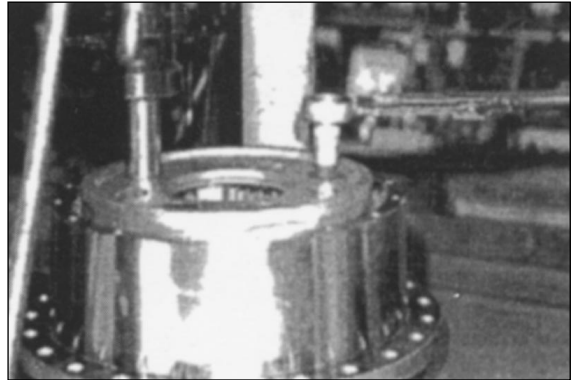

Figure 104
13. Tighten gear box of planetary gear assembly to 150 Nm (110.7 ft lb). Figure 104.